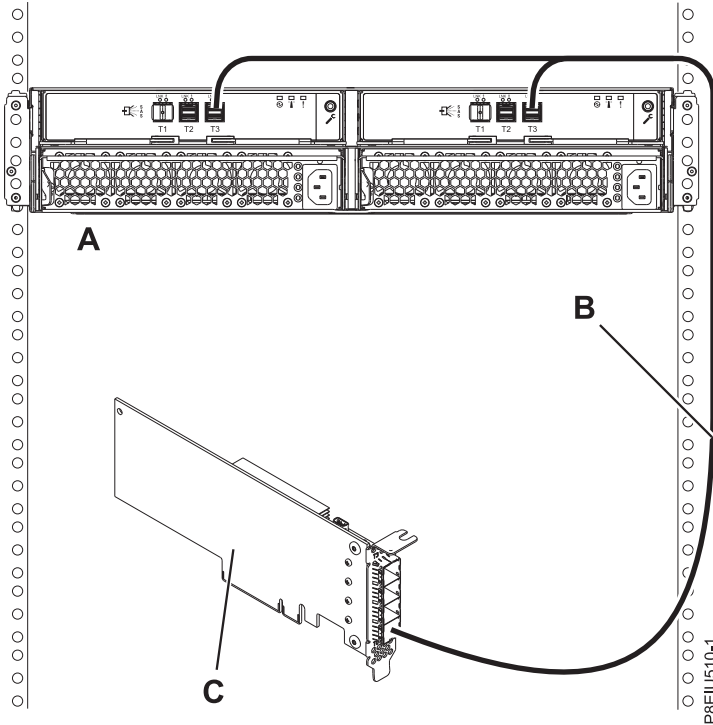

Figure 14. Mode 1 connection of one ESLL or ESLS storage enclosure by using a YO12 cable to a single FC EJ0J or FC EJ0M SAS adapter
- Complete a mode 1 connection of one enclosure (**A**) by using a YO12 cable (**B**) to a single FC EJ0J or FC EJ0M SAS adapter (**C**), as shown in Figure 14, then continue with “Connecting cables, power cords, and installing covers” on page 22.